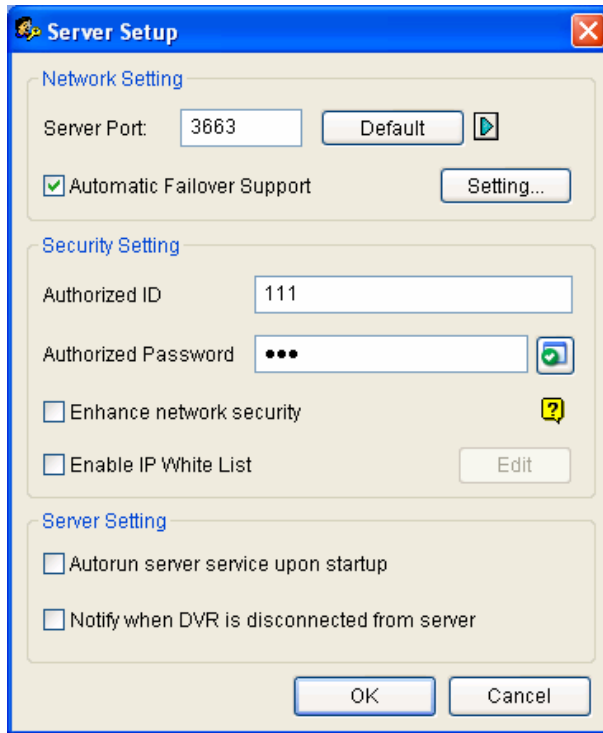

Figure 11-30 Sever Setup
2. Click the **Set Up Server** button in Figure 11-30. This dialog box appears.
3. Enter the IP address and port of the Authentication Server. Type the **Authorized ID** and **Authorized Password** of the Authentication Server (Figure 11-30).